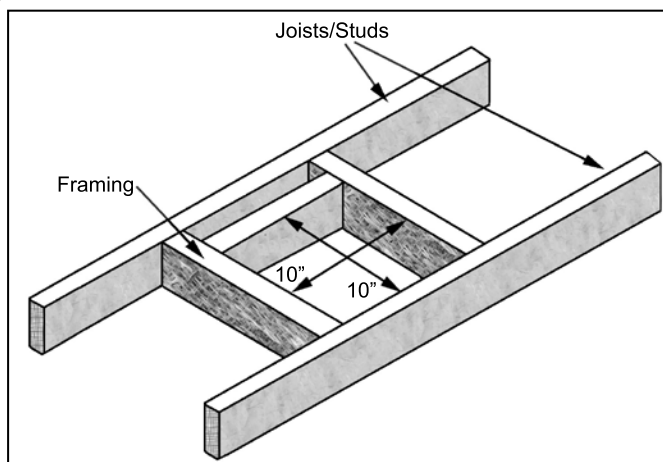
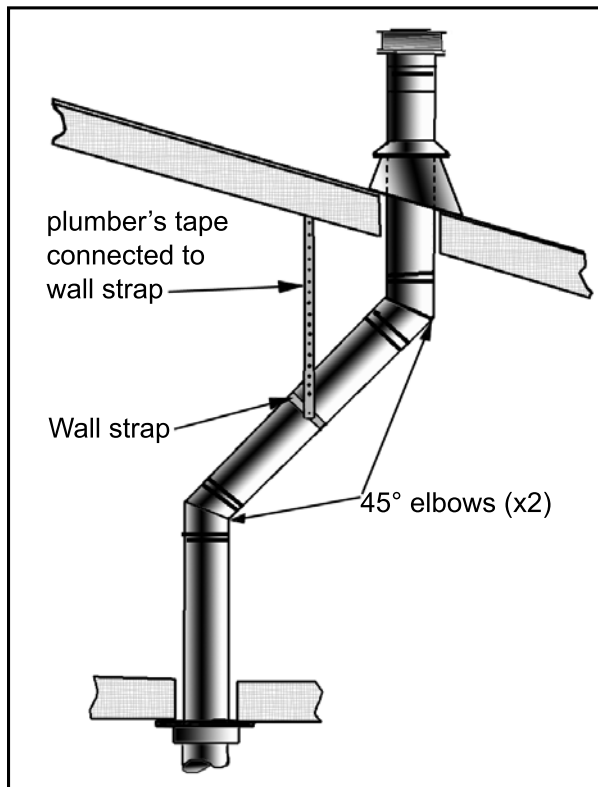
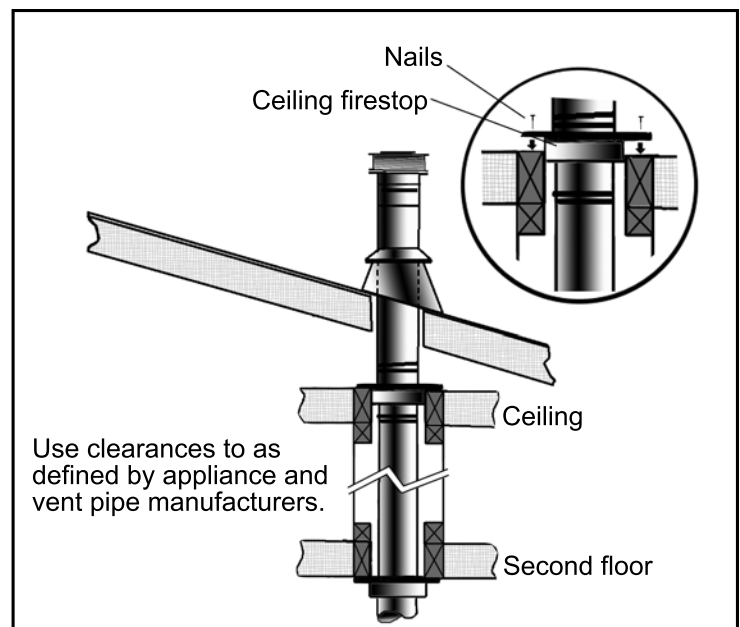

Figure 29. Vent Framing Through Wall/Ceiling
Figure 35: Use of Wall Straps.
Figure 36: Multi-Story Vent Pipe Installation.
4. Frame the hole as shown in Figure 29.
5. Trim the wall thimble to match the wall thickness as necessary. Install the wall thimble and secure it to the inner wall frame using four (4) 1½" wood screws. If a wall is greater than 8" (203mm) in depth, the clearance above the flex must be 4⅜" (111mm)
A 10" (254 mm) x 10" (254 mm) frame (see Figure 29) will assure the proper support and spacing for the vent pipe as it passes through the wall. Installations in Canada require that a wall thimble be used for passing through walls and ceilings. All sealing and vapour barriers must comply with local building codes.
Step 3. With the pipe in the correct position and attached to the fireplace, mark the wall for a 10 inches (25.4 cm) x 10 inches (25.4 cm) square hole (see Figure 29). The center of the hole should match the center line of the horizontal pipe. Cut and frame the hole in the exterior wall where the vent will be terminated. If the wall being penetrated is made of a non-combustible material (i.e. masonry or concrete) a 7 inches (17.8 cm) hole is acceptable.
Step 3. To install the Round Support Box/Wall Thimble in a flat ceiling, cut a 10 inch (25.4 cm) square hole in the ceiling, centered in the hole drilled in Step 2. Frame the hole as shown in Figure 29.
- (1) If an offset is necessary in the attic to avoid obstructions, it is important to support the vent pipe every 3 feet (914 mm), to avoid excessive stress on the elbows, and possible separation. Wall straps are available for this purpose (see Figure 35).
- (2) When ever possible, use 45° degree elbows instead of 90° degree elbows. The 45° degree elbow offers less restriction to the flow of flue gases and intake air.
- (3) For multi story installations; a ceiling firestop is required at the second floor, and any subsequent floors (see Figure 29). The opening should be framed to 10" (254 mm) x 10" (254 mm) inside dimensions, in the same manner as shown in Figure 36.